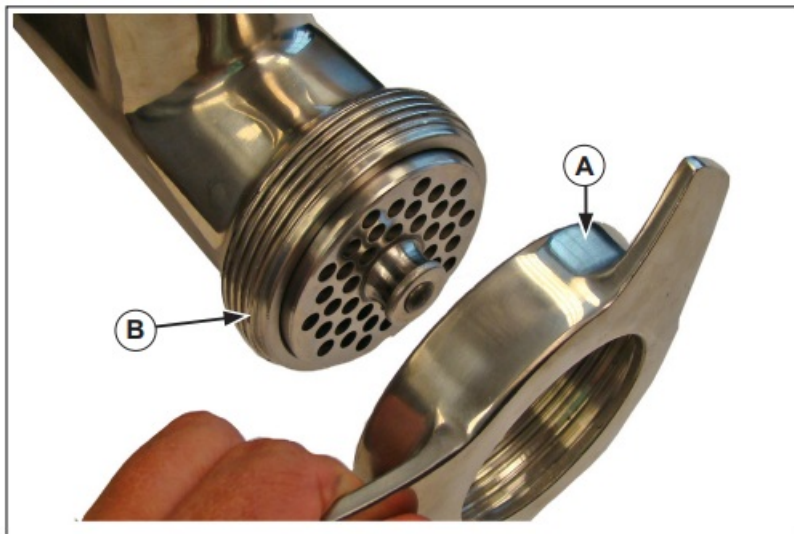

Figure 7. Coupling Cover and Grinder Chamber
11. If a sausage filler is to be used, place it between the coupling cover (A) and the grinder chamber (B). See Figure 7.
2. Unscrew and remove the coupling cover (A) from the grinder chamber (B). See Figure 7.